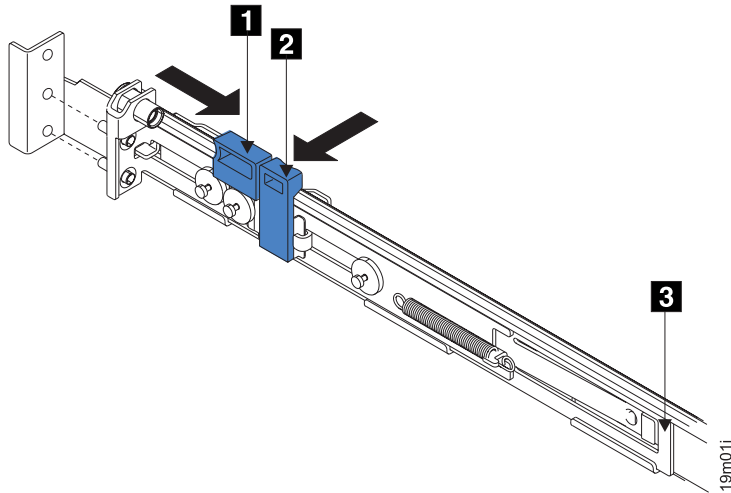

Figure 61. Opening the back latch-lock carrier assembly
5. Push the back rail bracket **1** (Figure 61) toward the front of the rail until it stops. The rail is now at its shortest adjustment.